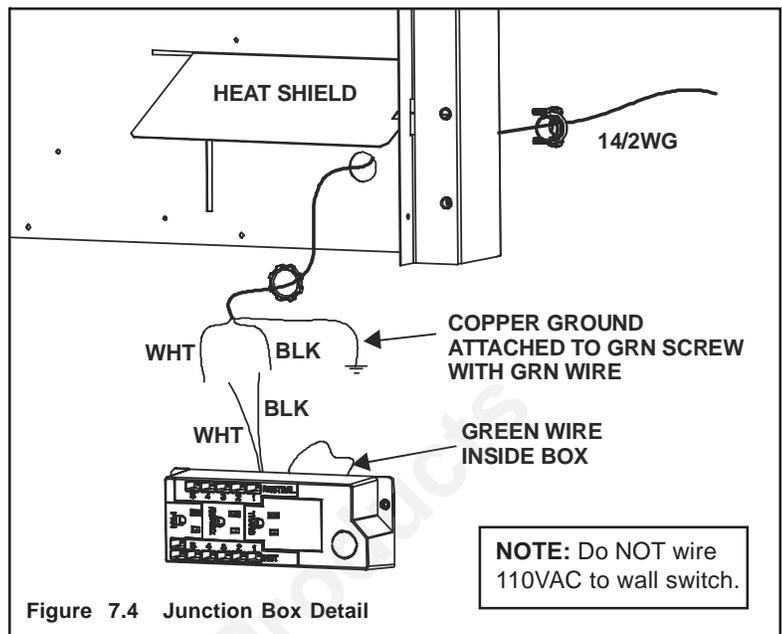

Figure 7.4 Junction Box Detail
- Remove the screw attaching the junction box to the outer shell, rotate the junction box inward to disengage it from the outer shell (see Figure 7.4).